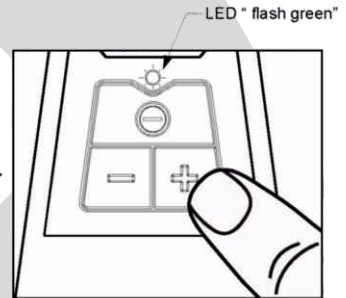

figure 3
3. Adjust the speed by pressing “ + ” or “ - ” buttons on the button plate. Press “ + ” is to raise up to higher speed setting, “ - ” is to lower the speed setting. - see figure 3.